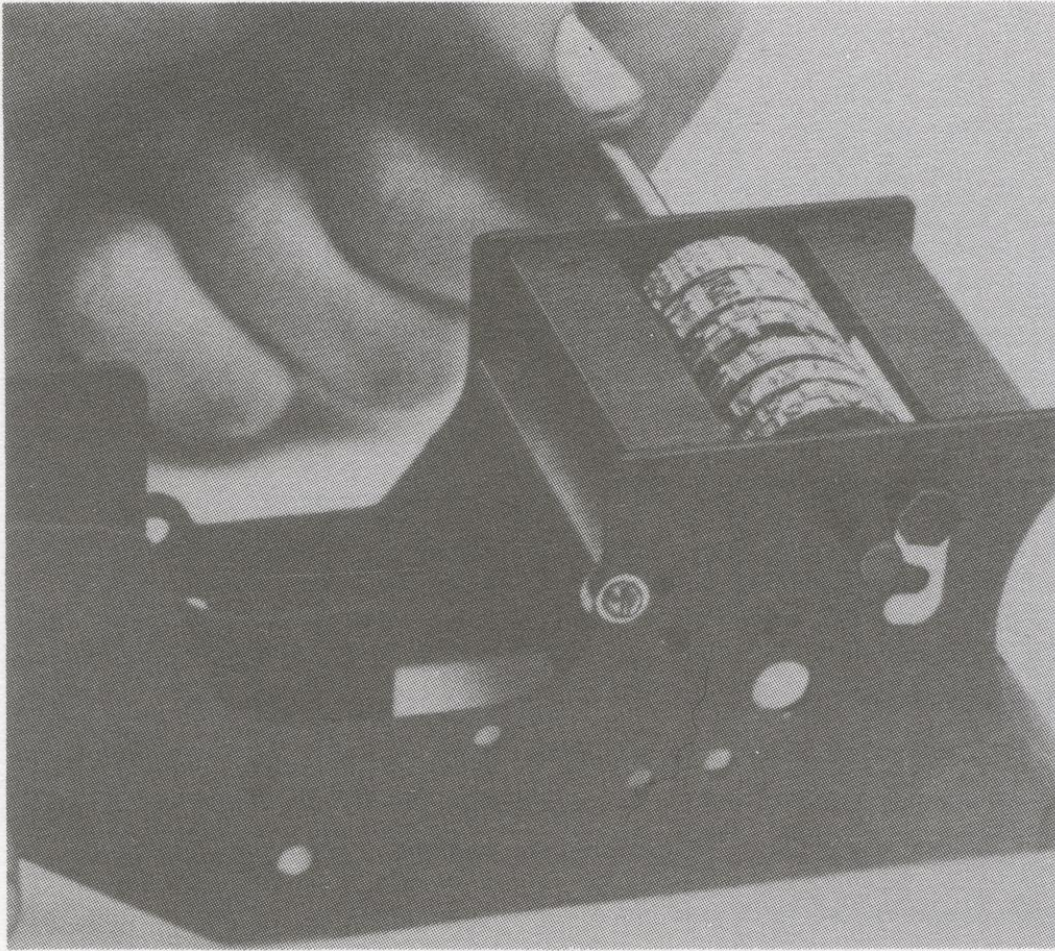

Figure 20
-Use "floating shaft" to push out existing shaft, allowing swing to fall free of frame. Push from side of frame opposite retainer (**figure 20**).